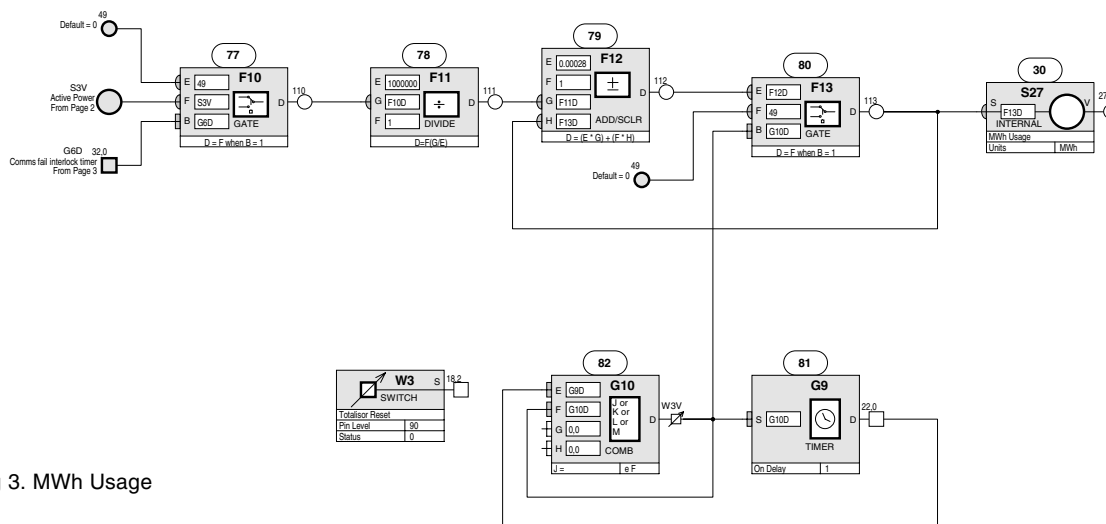

Fig 3. MWh Usage
In Fig. 3, F10 will normally gate through S3, Active Power (W), but if the meter communications fail, it will gate through zero. The active power is divided by 1,000,000 by F11, and then multiplied by 0.00028 (divided by 3600 - correct to 5 places after decimal point) within F12. The division by 3600 is to convert the MW value into MWh consumed per second, and then F12 and F13 together add this to the usage total every second to produce the totalised MWh Usage monitored by S27. Switch 3 (W3), the Totalisor Reset, is inserted between modules G10 and G9 which ensure that the switch is set back to zero after one cycle of the sequence table. W3 causes F13 to gate through zero which resets the MWh Usage.